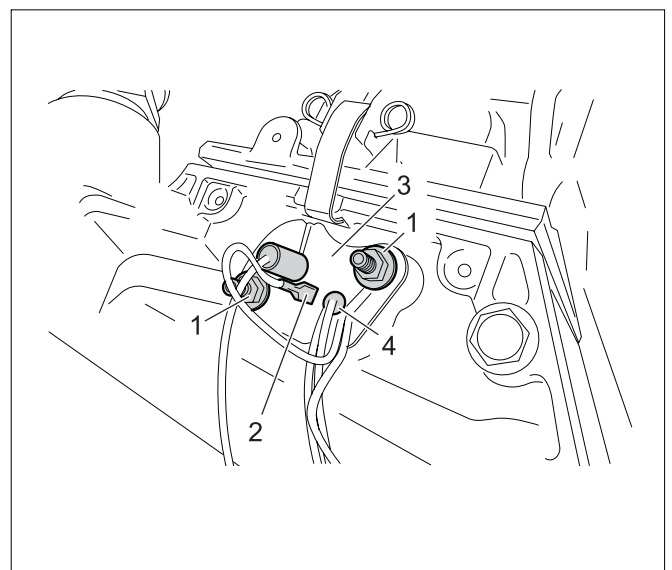

Fig. 126 Replacing the hot surface ignitor
- Loosen the fastening screws (see fig. 126, pos. 1).
- Pull the earth cable from the hot surface ignitor (see fig. 126, pos. 2).
- Dismantle the mounting plate (see fig. 126, pos. 3).